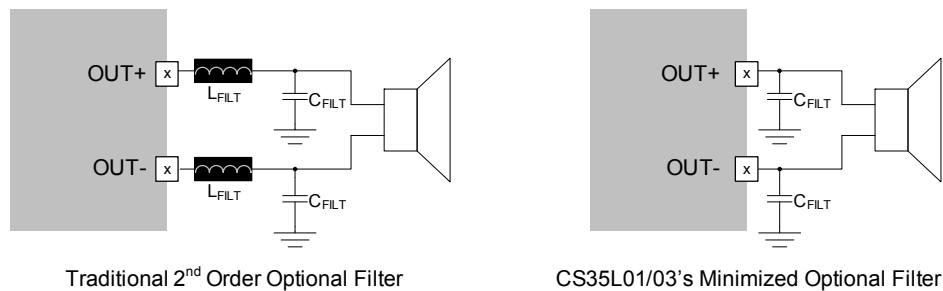

Figure 5. Optional Output Filter Components
In applications which require an output filter, the unique design of the CS35L01/03 allows a much smaller, less expensive output filter to be used than what is normally found in Class-D amplifiers. In contrast to a second order filter implemented with a series inductive element (traditional inductor or ferrite beads) and a shunt capacitive element, basic filtering for the CS35L01/03 is accomplished by a single-order capacitive element attached to the OUTx terminals. This is highlighted in Figure 5 below. Of course, if the system requires more aggressive filtering, a ferrite bead can be added in series with the outputs to further attenuate system level noise.
Selection of the filter components should ensure that shunt elements (i.e. C_{FILT} in Figure 5) present a very low impedance at the frequency corresponding to the tallest peak in the spectral plot. If needed, series components such as ferrite beads (i.e. L_{FILT} in Figure 5) should be chosen to present a very high impedance at the frequency corresponding to the tallest peak in the spectral plot.
15. "Idle Current Draw vs. VBATT - SD Mode" capacitor values refer to C_{FILT} when configured as the "CS35L01/03's Minimized Optional Output Filter," shown in Figure 5 on page 17.